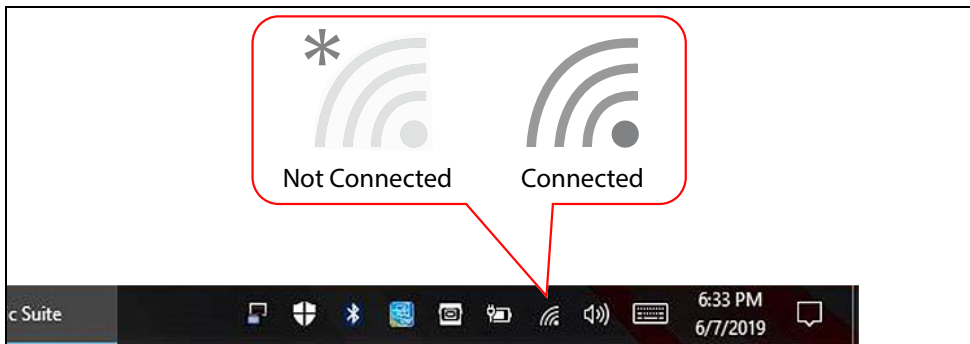
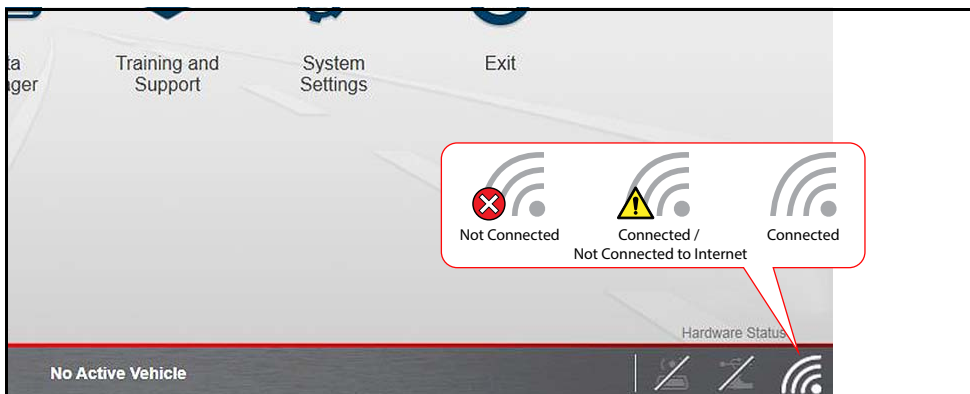

Figure 1-19
Figure 1-20
2. From the diagnostic tool, click the Wi-Fi icon in the System Tray (Figure 1-19), or from the Diagnostic Suite lower toolbar (Figure 1-20).